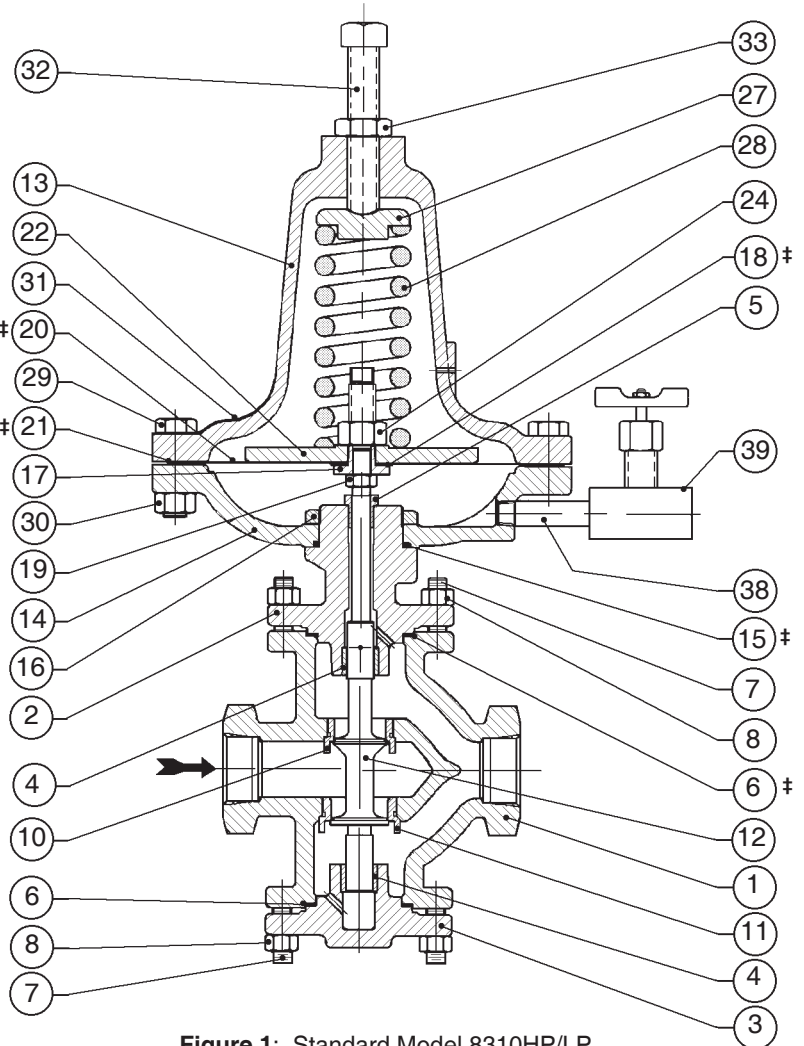

Figure 1: Standard Model 8310HP/LP
11. Fully thread stem lock nut (19) and pusher plate (17) on end of valve plug assembly (12). Refer to Figure 1 for correct orientation of the pusher plate (17).
12. Calibrate diaphragm (20) setting and correct valve plug assembly (12) travel as follows:
- a) Lift and hold valve plug assembly (12) up tight against the seats (10 and 11).
- b) Adjust the pusher plate (17) so that the gasket surface face of the pusher plate (17) is flush with the top of the diaphragm case (14) flange.
- c) Draw the stem lock nut (17) up tight against the pusher plate (17) by holding “flats” milled on pusher plate (17).
13. Grasp threaded end of valve plug assembly (12) by hand and ensure that the assembly moves freely by lifting the valve plug assembly (12) in and out of the seats (10 and 11), making sure it does not “stick”. If it does not move freely, rotate valve plug assembly (12) CW until new position is found which allows optimum “free vertical movement” in and out of seats.
14. Proceed with diaphragm (20) assembly instructions in accordance with Section IV.B., steps 10 through 18. **NOTE: Do not rotate valve plug assembly (12) from optimum “free vertical movement” position during final assembly.**